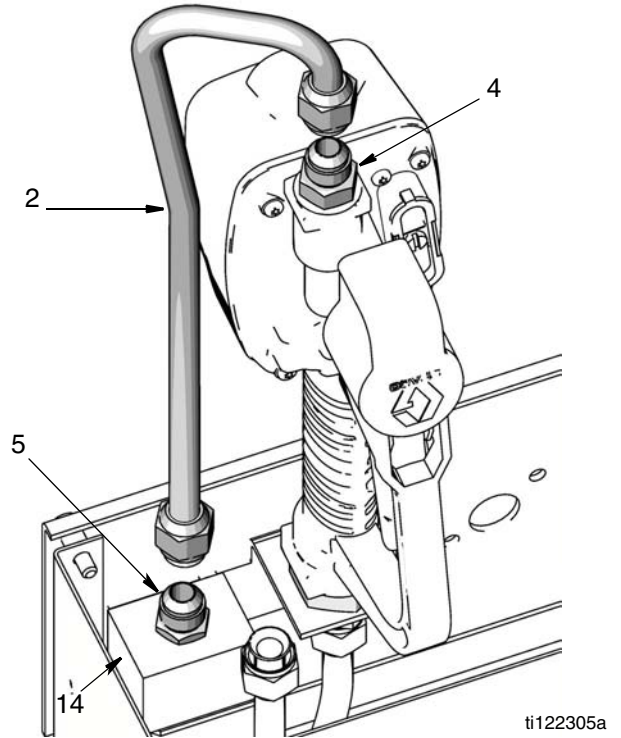

FIG. 16
6. Attach fluid outlet tube (2) to fitting adapter (5) on manifold (14) and fluid outlet fitting (4) (FIG. 16). Finger tighten both fittings until they are securely attached. Then use a wrench to snugly tighten each fitting.